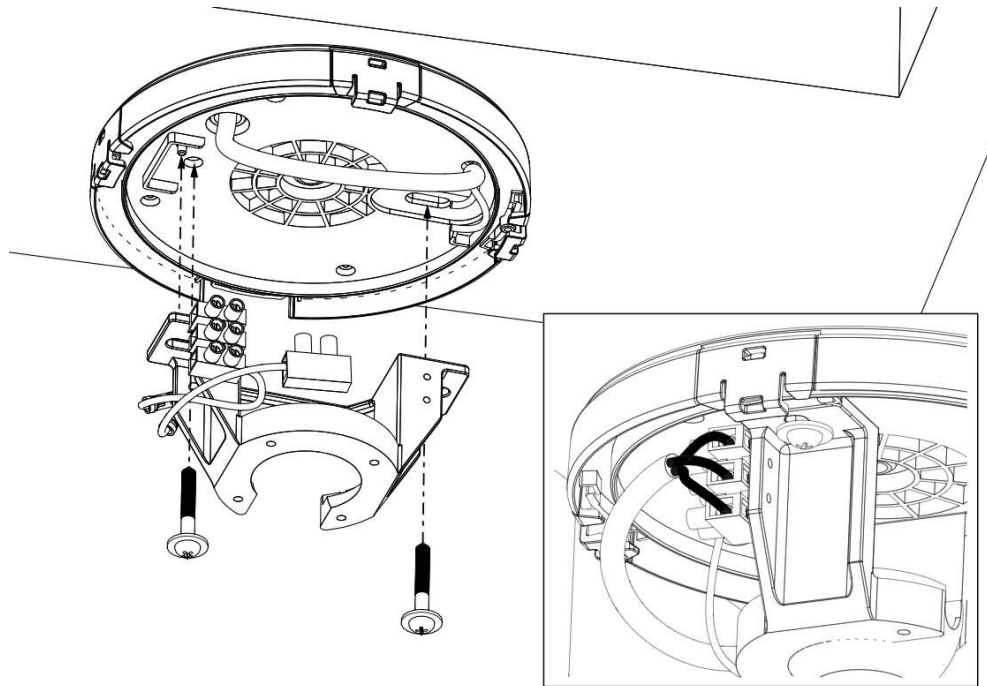

Fig. 4.1
1. Insert the supply cable through the cable entry of the ceiling canopy top cover; (Fig.4.1)
2. Install the hanger bracket onto the ceiling; (Fig.4.1)
3. Connect the supply cable to the terminal block. (Fig.4.1)